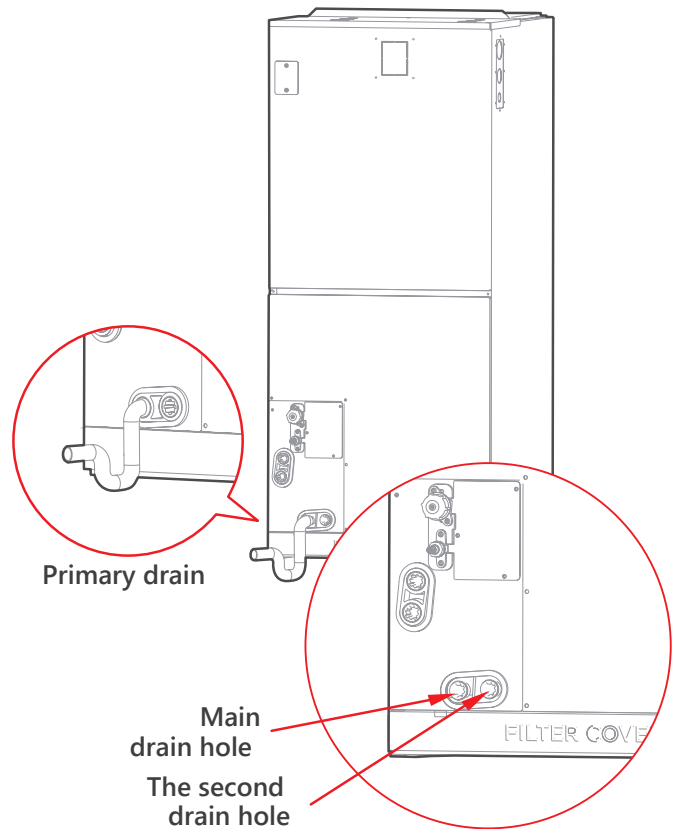

Fig. 2-1: Vertical discharge
- Fig. 2-1 shows how to trap or plug all drains during vertical discharge.